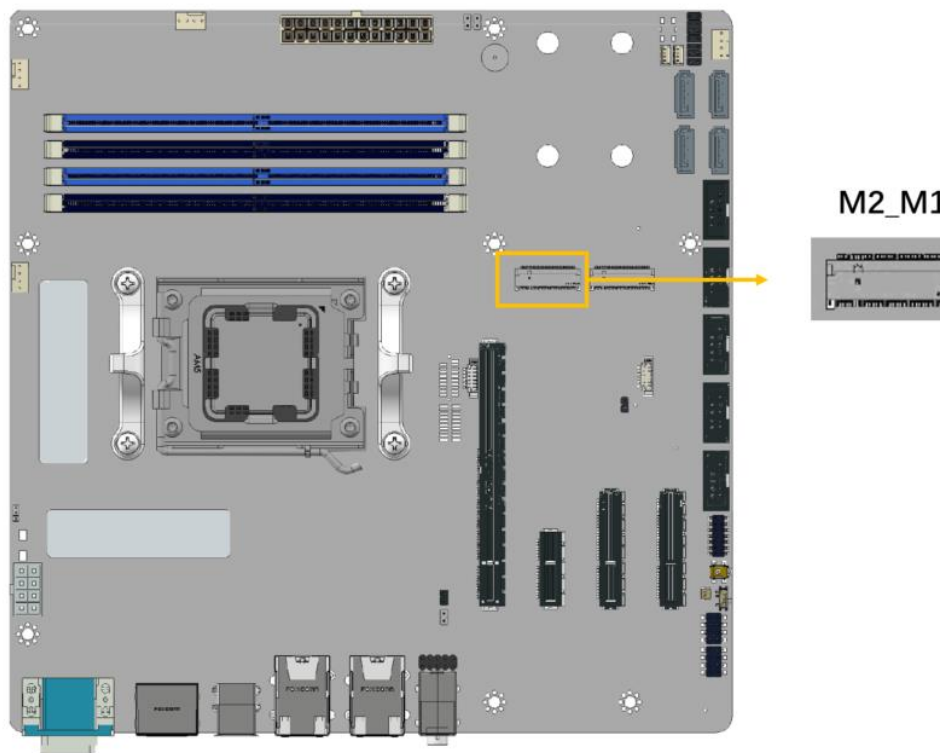

Figure 4-15: M.2 M-key Slot Location
- CN Location:** See **Figure 4-15**